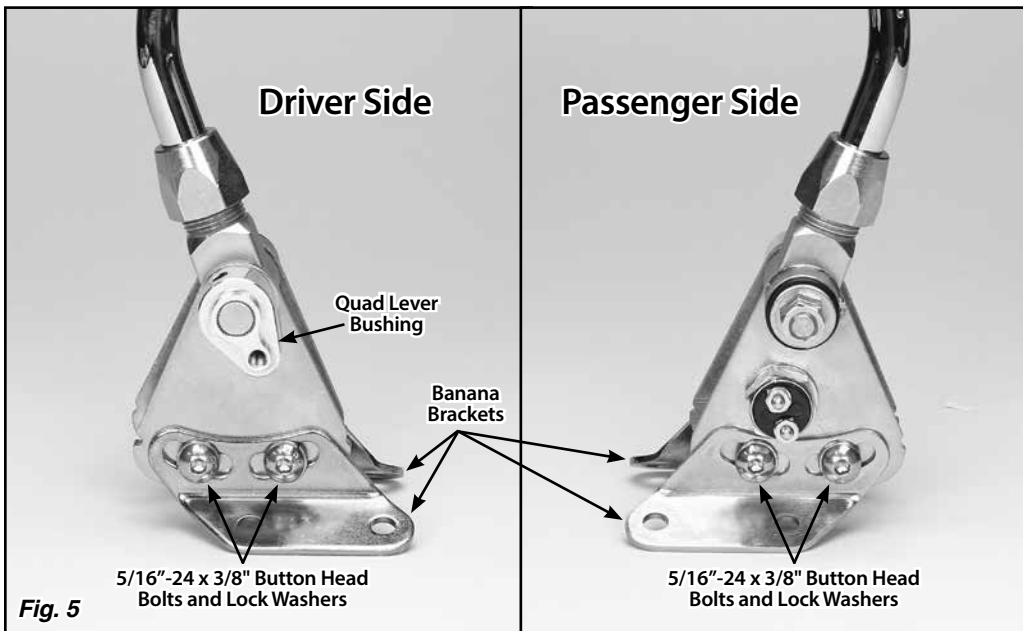

Fig. 5
Refer to Fig. 1 and Fig. 5 for the component names.
**Make sure you are using 3/8" long bolts. They will be the shortest bolts that are in the shifter kit. DO NOT use the 5/16"-24 x 1/2" button head bolts that came in the packet with the banana brackets to attach the banana brackets to the shifter!** Those bolts will be used in the next step. **Fig. 5**
Double check to make sure that the 5/16"-24 x 3/8" button head bolts connecting the driver side banana bracket to the shifter assembly are tight. **Fig. 5**